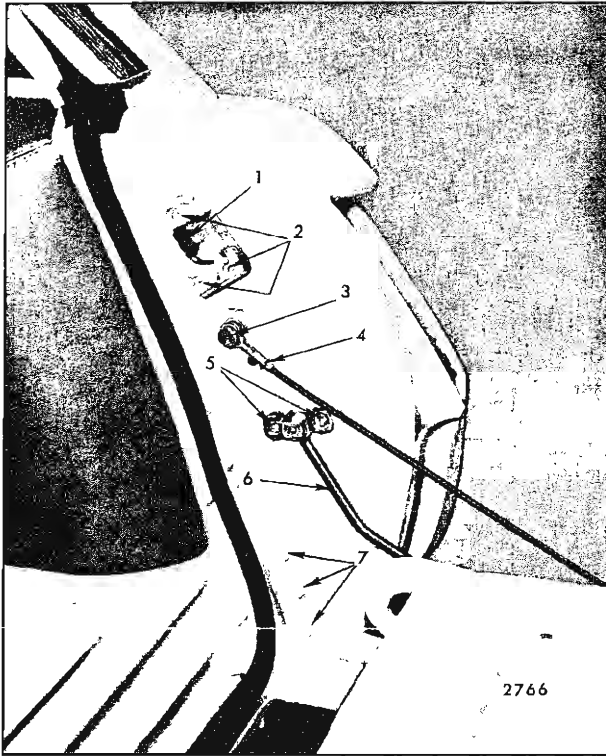

Fig. 9-50—Tail Gate Torque Rod, Hinge and Support Attachments
1. Remove tail gate window assembly. With tail gate in an approximate vertical position, remove torque rod retainer (Fig. 9-50).